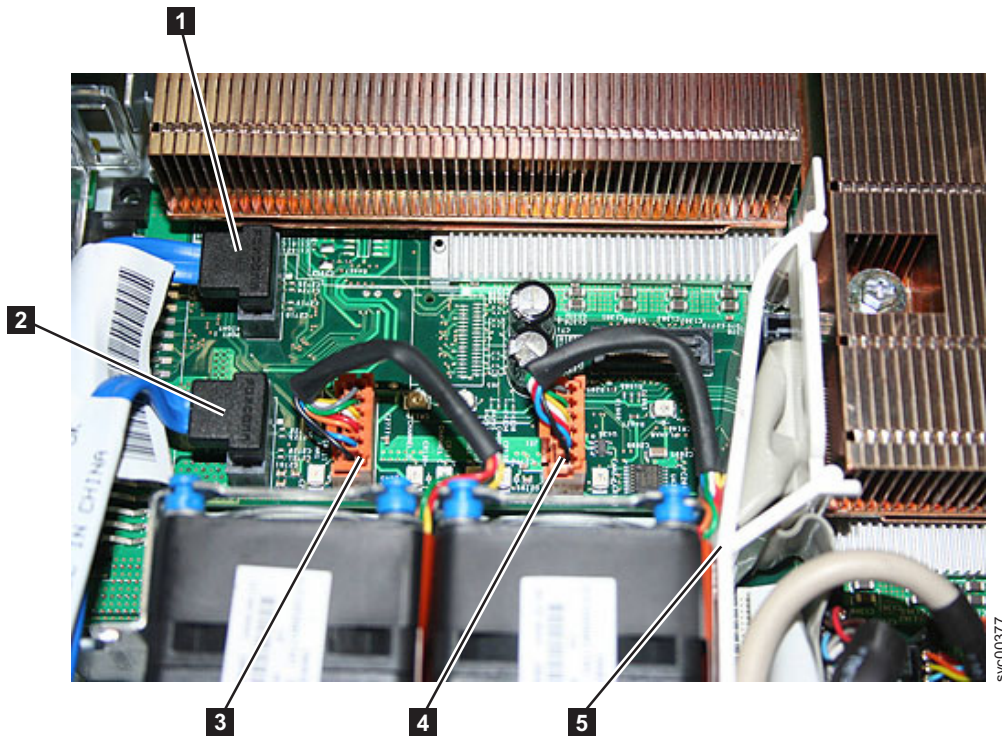

Figure 234. Connectors on the SAN Volume Controller 2145-8G4 system board
5. Disconnect the first set of cables from the system board, which are shown in Figure 234 on page 566. From the left front side of the system board, remove the following: